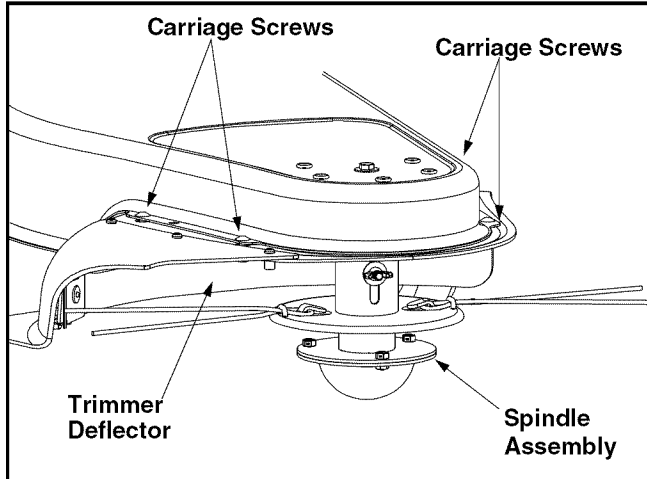

Figure 7
- Remove carriage screws, washers, and hex nuts that secure the trimmer deflector to the base. See Figure 7.